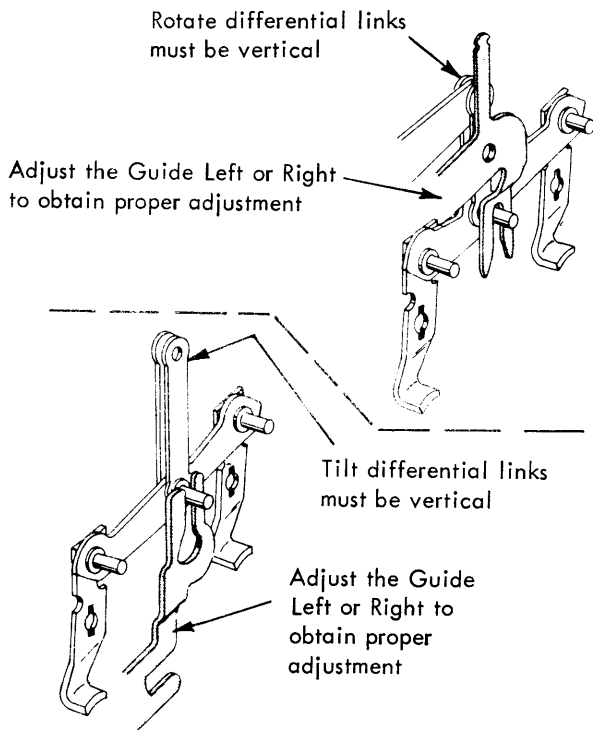

FIGURE 14. Selector Latch Guides
- a. The rotate and tilt differential guides should be adjusted left or right so that the vertical links of the two systems hang in a true vertical position (Fig. 14)